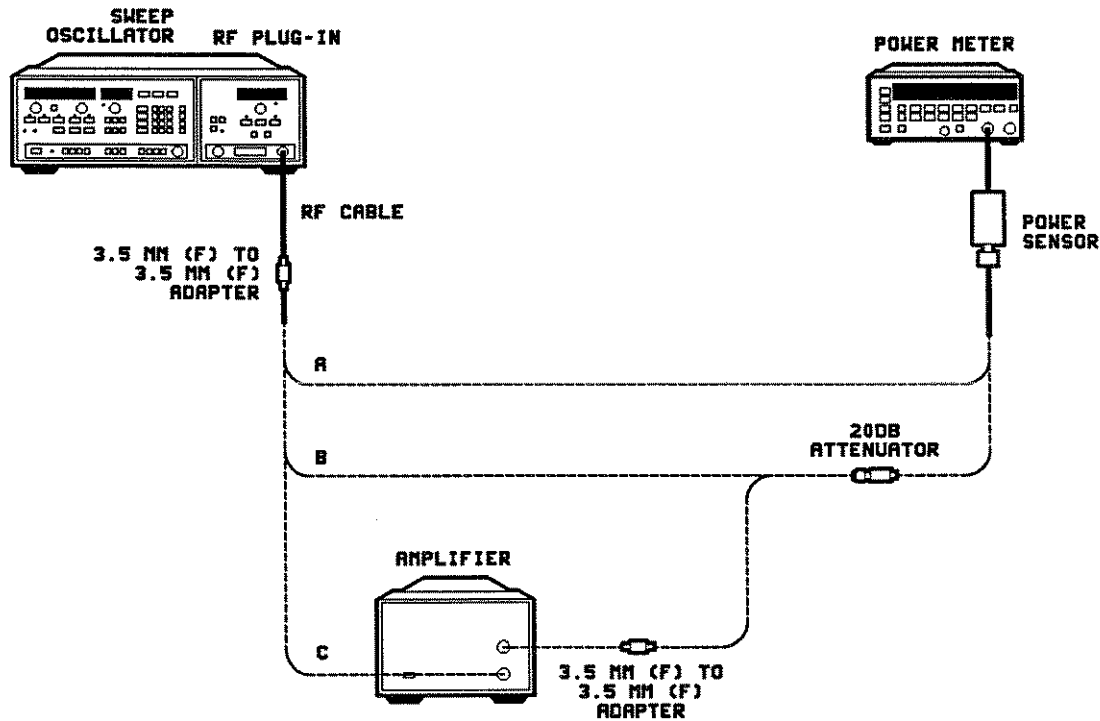

Figure 4-2. Small Signal Gain Test Setup
- a. Connect the equipment as shown in Figure 4-2, point (A), with the power sensor connected to the 3.5 mm(f) adapter (without the amplifier, the second 3.5 mm(f) adapter, or the 20 dB attenuator).
- a. Connect the 20 dB attenuator between the adapter and the power sensor, as shown in Figure 4-2, point ②.
- a. Connect the equipment as shown in Figure 4-2, point ③, with the amplifier and the second 3.5 mm(f) adapter connected between the first 3.5 mm(f) adapter and the power sensor (you must use the same 20 dB attenuator as in the previous steps).